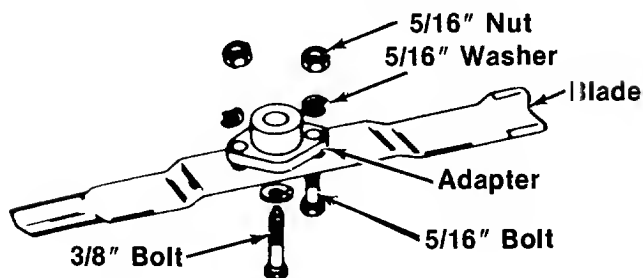

FIGURE 29.
1. Remove the large bolt and lock washer which holds the blade and adapter to the blade spindle. See figure 29.
3. If the blade or blade adapter needs replacing, remove the two small bolts, lock washers and nuts which hold the blade to the adapter. See figure 29.